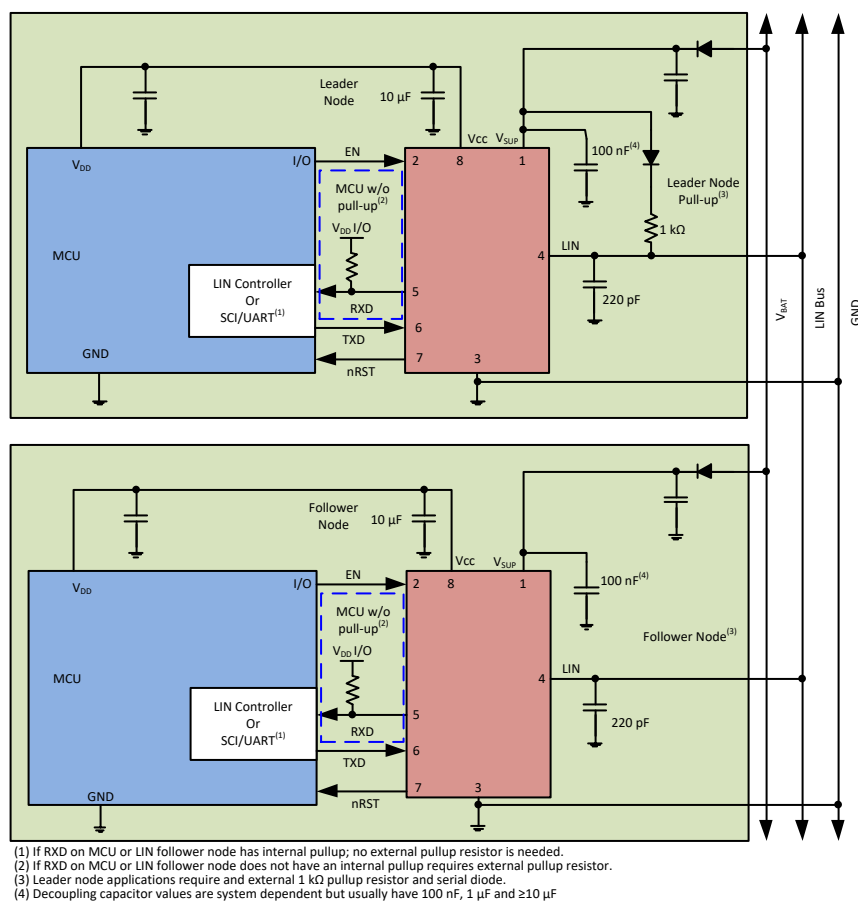

Figure 10-1. Typical LIN Bus
The device comes with an integrated 45 k Ω pull-up resistor and series diode for follower node applications. For leader node applications, an external 1 k Ω pull-up resistor with series blocking diode can be used. Figure 10-1 shows the device being used in both leader and follower node applications.
- **Pin 2 (EN):** EN is an input pin that is used to place the device in a low power sleep mode. If this feature is not used, the pin should be pulled high to the regulated voltage supply of the microprocessor through a series resistor, values between 1 k Ω and 10 k Ω . Additionally, a series resistor may be placed on the pin to limit current on the digital lines in the event of an over-voltage fault.
- **Pin 4 (LIN):** This pin connects to the LIN bus. For follower node applications, a 220 pF capacitor to ground is implemented. For leader node applications, an additional series resistor and blocking diode should be placed between the LIN pin and the V_{SUP} pin. See Figure 10-1